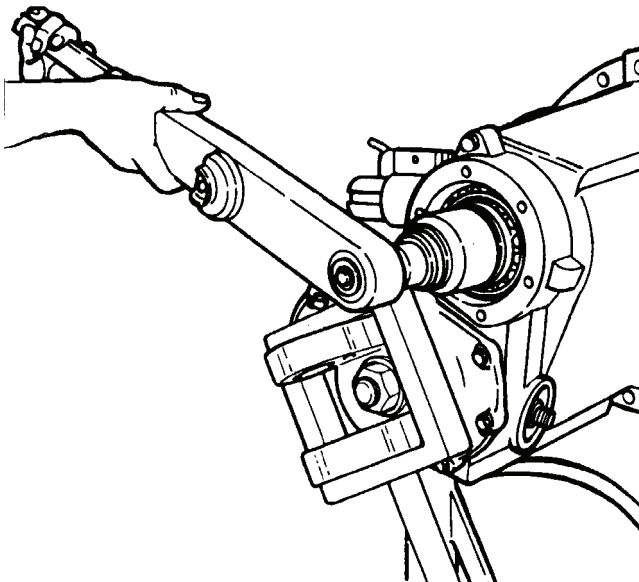

Figure 10. Drive Pinion Nut.
- (3) Use the correct holding tool to hold the input yoke in a stationary position. Loosen, BUT DO NOT REMOVE, the nut on the drive pinion. Figure 10.